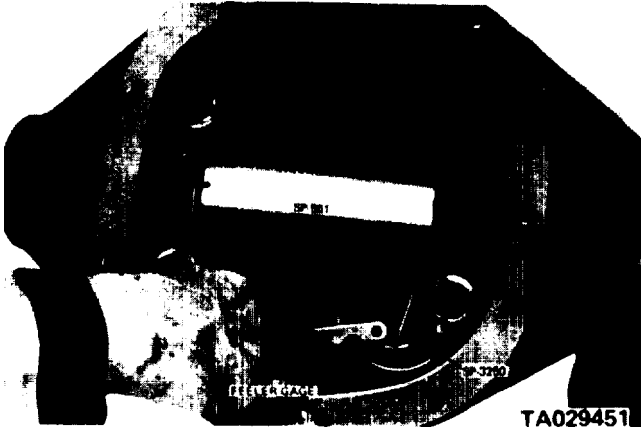

Figure 20-16. Determining Shim Pack Thickness for Drive Pinion Depth of Mesh.
- (1) With pinion tool SP-5385 in place, attach adapter SP-3250 with a cap screw and tighten securely.
- (2) Center adapter SP-561 in the axle housing.
- (3) Install the differential bearing caps. Torque the bolts to 10 ft-lbs.
(4) Use a feeler gage to select the proper thickness of shims that will fit snugly between adapters SP-561 and SP-3250 (figure 20-16).